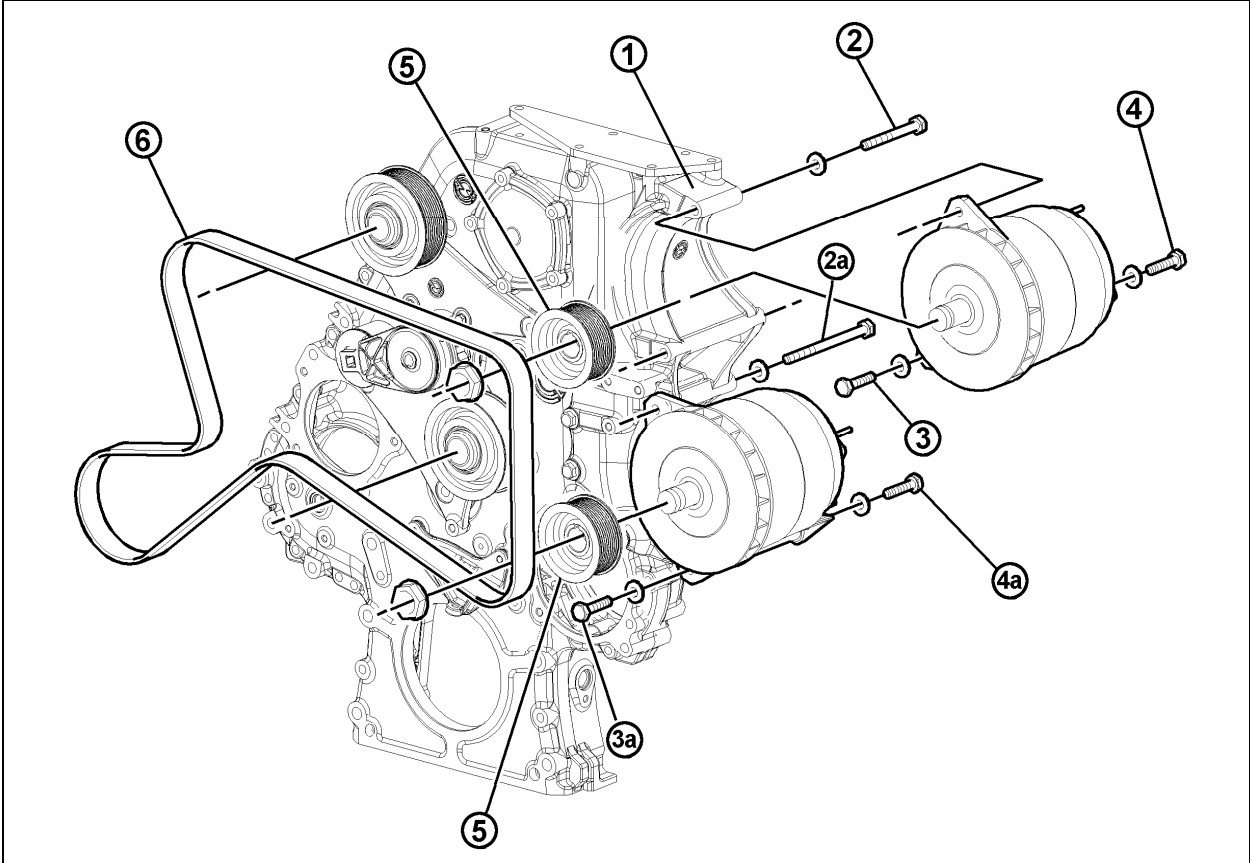
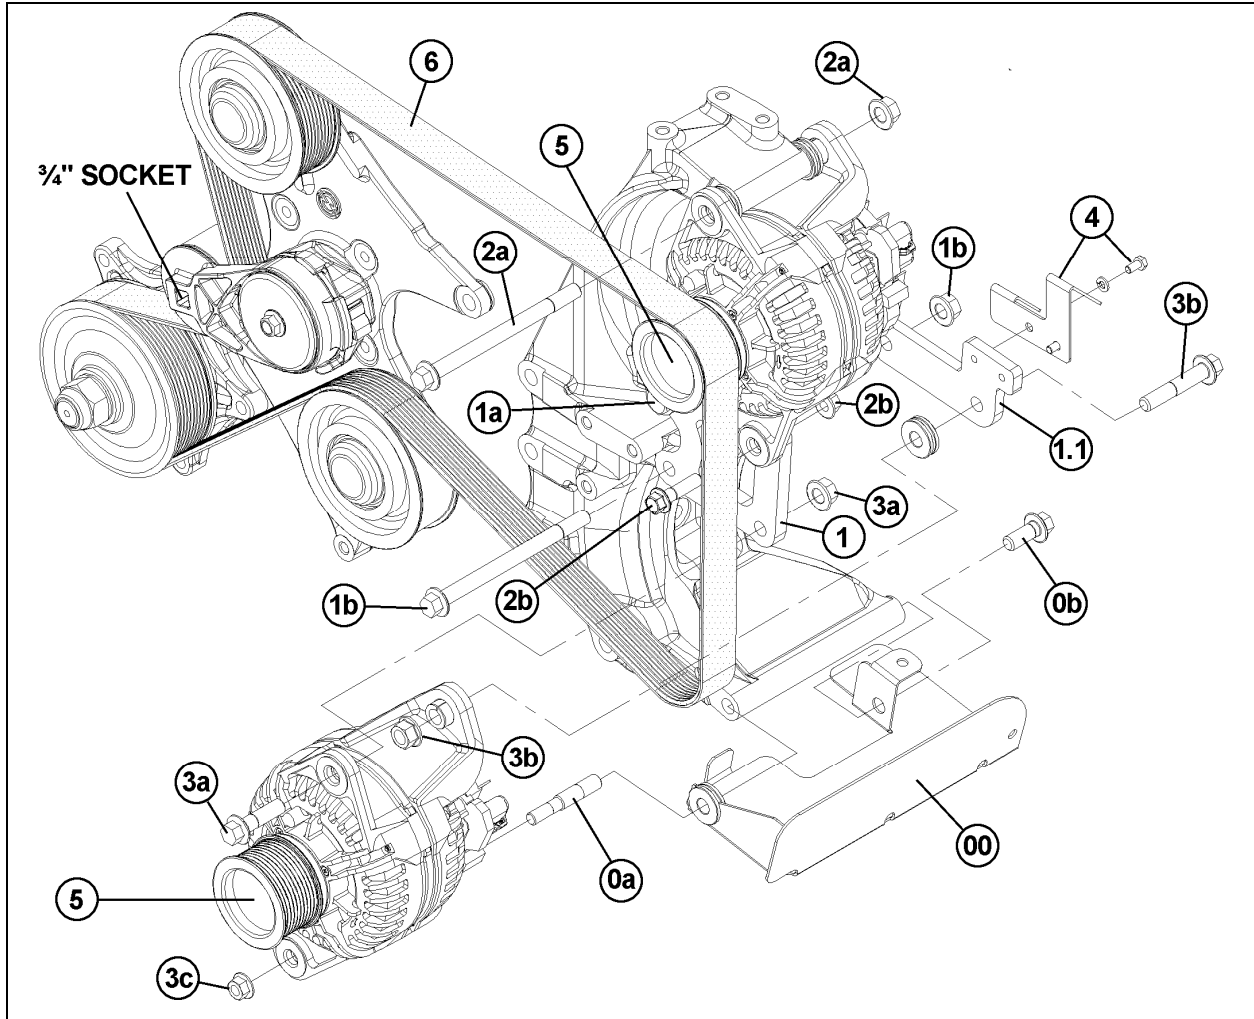

FIGURE 19: TWIN BOSCH ALTERNATORS INSTALLATION WITH DDC SERIES 60 ENGINE (VIP MOTORHOMES) 01077
FIGURE 25: TWIN BOSCH HD10 ALTERNATORS INSTALLATION (H3 SERIES COACHES)
1. Install alternator mounting bracket (1, figure 19) to the gear case. Use the four flanged phosphor alloy bolts on the pulley end of the
2. Bolt the upper alternator to the bracket using the 4 inch bolt at the top (2, fig 19) and two inch bolts at the lower mounting bosses (3 and 4, figure 19). Bolt the other alternator using the 6 inch bolt at the top (2a, fig 19) and two inch bolts at the lower mounting bosses (3a and 4a, figure 19);
3. On the drive shafts of both alternators, install key, pulley, spring washer and nut (5, figure 19);
6. Install alternators belt (6, figure 19).
1. Insert a 3/4 inch socket drive into the automatic belt tensioner opening (fig. 19).
1. If necessary, reinstall protector (00, figure 25) to the alternator support assembly. Use the stud (0a, figure 19) and bolt (0b, figure 25) to fix the protector. Use some Loctite 262 red (688910) onto the threads.
2. If removed, reinstall ring bracket (1, figure 19) and L-shaped bracket (1.1, figure 25). Fix the ring bracket using bolt (1a, figure 25) and also bolt and nut (1b, figure 19) for the ring bracket and L-shaped bracket. Use some Loctite 262 red (688910) onto the threads.
3. Mount the upper alternator using bolt and nut (2a, figure 25), and also bolt and nut (2b, figure 25).
4. Mount the lower alternator using bolt and nut (3a, figure 25), and also bolt and nut (3b, figure 25). Fix the lower portion of the alternator using nut (3c, figure 25).
5. Mount the cable bracket (4, figure 25) and fix using bolts (4, figure 25).
6. Mount pulleys (5, figure 25) onto alternators.
7. Install alternators belt (6, figure 25).
4. Insert a  $\frac{3}{4}$ " socket drive into the automatic belt tensioner opening (Fig. 25).